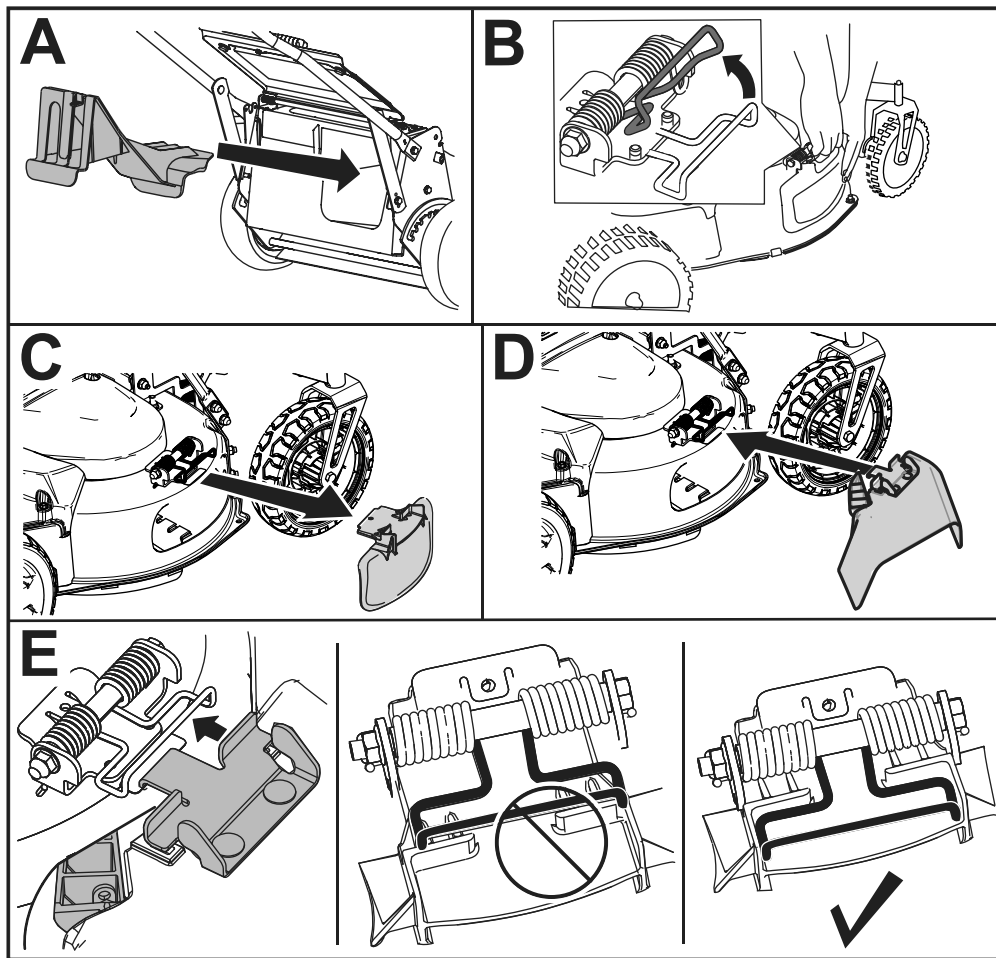

Figure 20
3. Insert the rear-discharge plug (A of Figure 20).
4. Remove the side-discharge deflector by pulling up on the spring that holds the deflector in place and removing the deflector (B and C of Figure 20).
5. Install the side-discharge chute by pulling up on the spring, placing the chute over the opening, and lowering the spring over the tabs on top of the discharge chute (D and E of Figure 20).